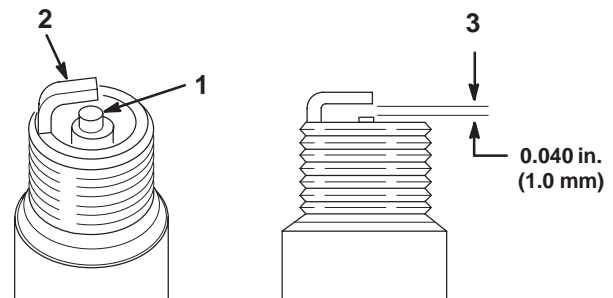

Figure 38
1. Look at the center of the spark plug(s) (Fig. 38). If you see light brown or gray on the insulator, the engine is operating properly. A black coating on the insulator usually means the air cleaner is dirty.
2. Check the gap between the center and side electrodes (Fig. 38). Bend the side electrode (Fig. 38) if the gap is not correct.